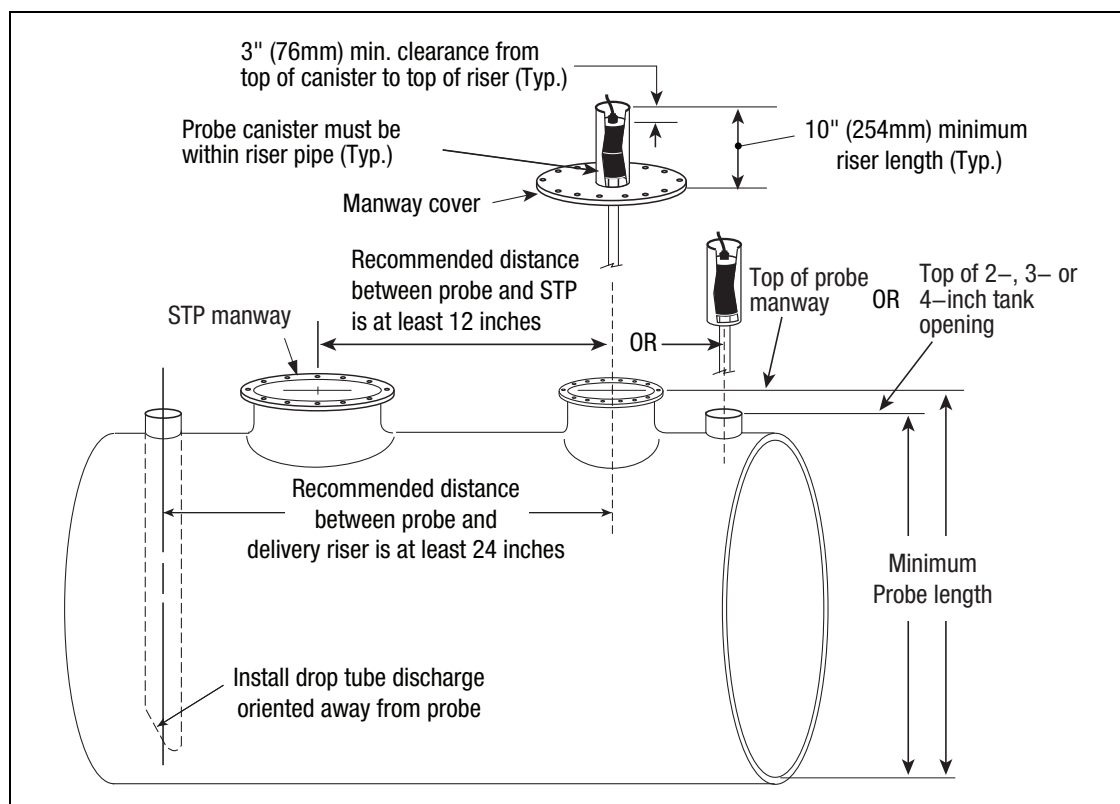

Figure 8. Determining The Minimum Mag Probe Length
1. Measure the distance from the bottom of the tank to the top of the probe manway, or the 2-, 3- or 4-inch tank opening- this is the minimum probe length (ref. Figure 8).